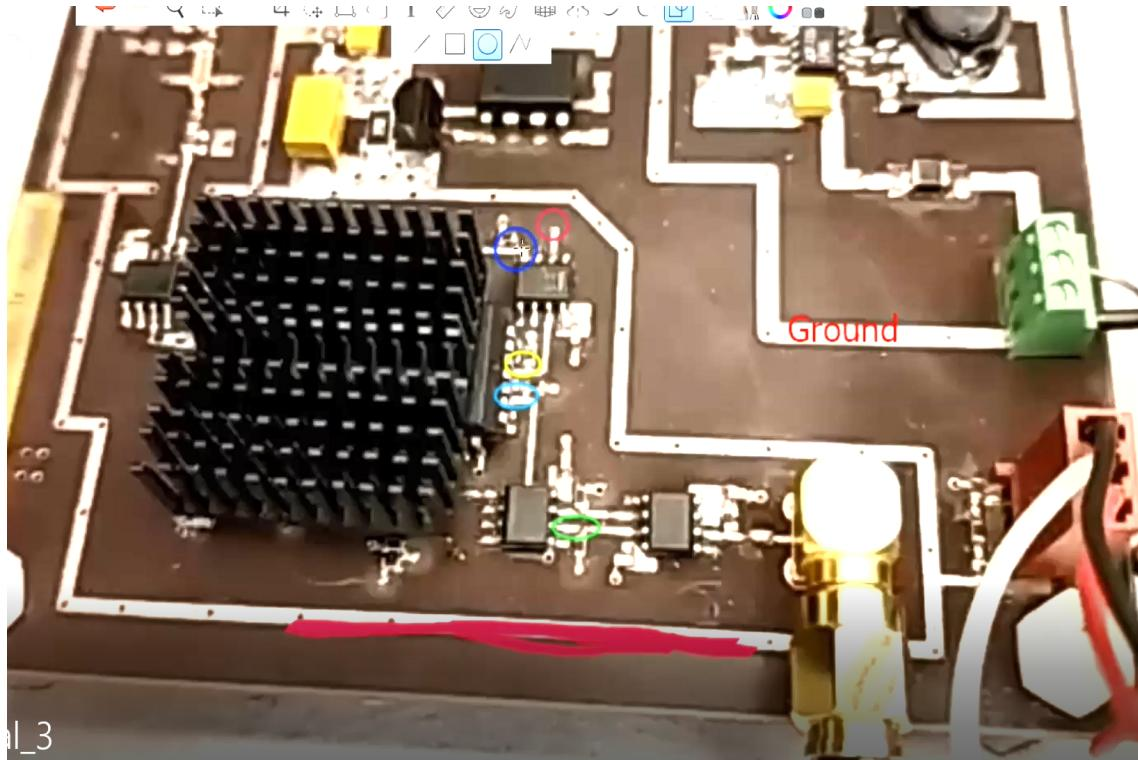

Fig. 5. The set of debug points on the PN-sequence generator's circuit board
- To ensure that the run-stop toggle switch on the PN-sequence generator is operating correctly, with the switch set to STOP, use a multimeter to measure the voltage between the GND strip and the point identified by a red circle in Fig. 5 -- the multimeter should read $4\pm0.3V$; and with the switch set to RUN, the voltage between the same two points should be $3\pm0.3V$;
- To check if a 10MHz square waveform is propagating through the PN sequence generator at the point highlighted by a green oval in Fig. 5, place a probe of an oscilloscope at this point and the other probe on the strip highlighted by a bold red line in Fig. 5 -- the 10MHz square waveform should appear on the oscilloscope as depicted in Fig. 6 (a horizontal [time] scale zoom-in might be needed to get a good view of the waveform
- As a final debug step, probe the signal between the point identified by a blue circle and the strip highlighted by a bold red line in Fig. 5 -- the observed waveform on the oscilloscope should be another 10MHz square waveform as depicted in Fig. 7; note here that in order to optimally observe this waveform, the oscilloscope might need to be "Edge Triggered" with a "Line Source" -- along with a vertical scale resolution of 1V per division and a horizontal scale resolution of $20\mu s$ per division.